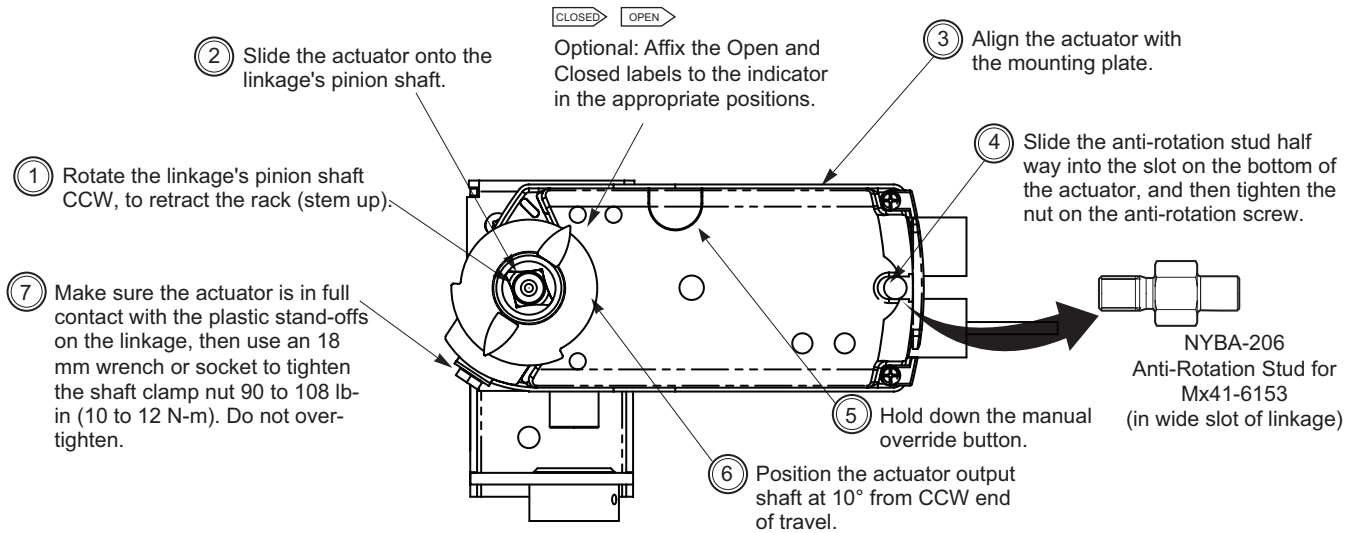

Figure-4 Mounting Mx41-6153 and Setting up Actuator/Linkage/Valve Assembly.
- a. Confirm that the NYBA-206 anti-rotation stud is installed in the wide slot of the linkage (refer to Figure-1 on page 3). Install the actuator onto the linkage and valve, and set up the assembly, according to Figure-4 below.